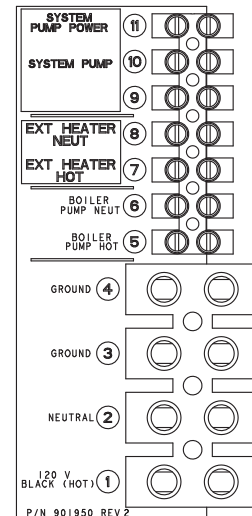

Fig. 11b: Wiring Electrical Connections Cascade Master
1. On the boiler designated as the Cascade Master, apply the System Sensor and DHW Sensor decals (included) to the field wiring board as shown in Fig. 18. Apply the SYSTEM PUMP and EXT HEATER labels to the wiring electrical connections terminal strip as shown in Fig. 11b on page 17.
2. Connect the system pump hot wire to terminal #11, marked SYSTEM PUMP (see Fig 11b).